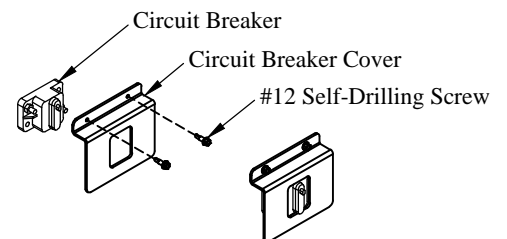

Figure 11: Circuit breaker cover.
11. **Install** the plastic circuit breaker cover over the circuit breaker using the supplied #12 self-drilling screws (Figure 11).